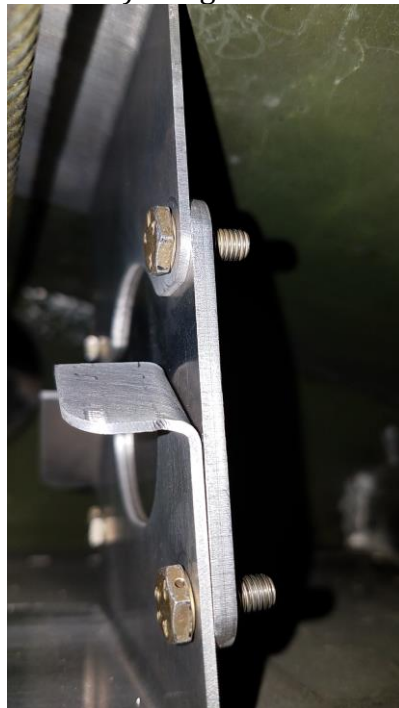

Figure 3-6
2.8. Temporarily attach the Cessna 18X Lower Roll Bracket (1450-128) to the Servo Bolt Pattern Plate (P/N 1420-216) using 2 ea. AN3-3A as shown in Figure 3-6.